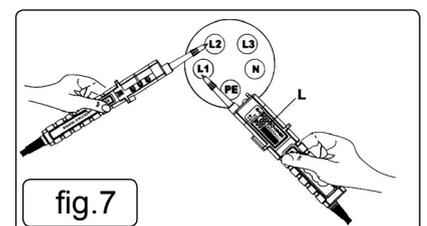

fig.7
- 5.3.11. If the rotation is counter-clockwise, LCD will display "L" (fig.7).